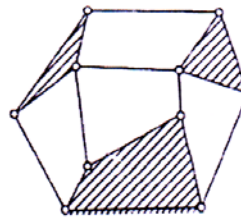

Figure.1
b) For Kinematic linkage shown in Figure 1, calculate the following : [9]